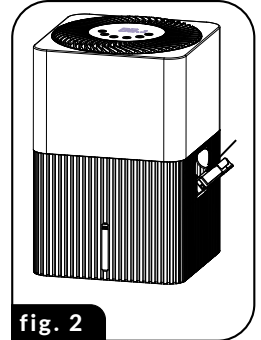

fig. 2
1. Slightly tilt the water intake (8).
2. Carefully pour in around 3 litres of cold, fresh water into the tank (10) - Fig. 2.
3. Use the water level indicator (9) to monitor the level of water (10) in the tank. The "MAX" level is equivalent to around 3 litres of water.
5. After filling the tank, return the intake (8) to the original position.